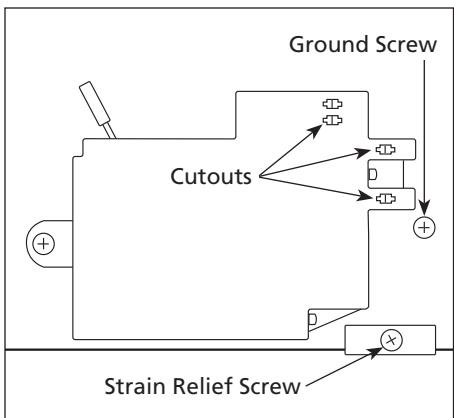

Figure 3
- Locate cut-outs on the back of pressure switch (See Figure 3). Insert
- Remove ground screw (See Figure 3).
- Remove strain relief screw (See Figure 3).